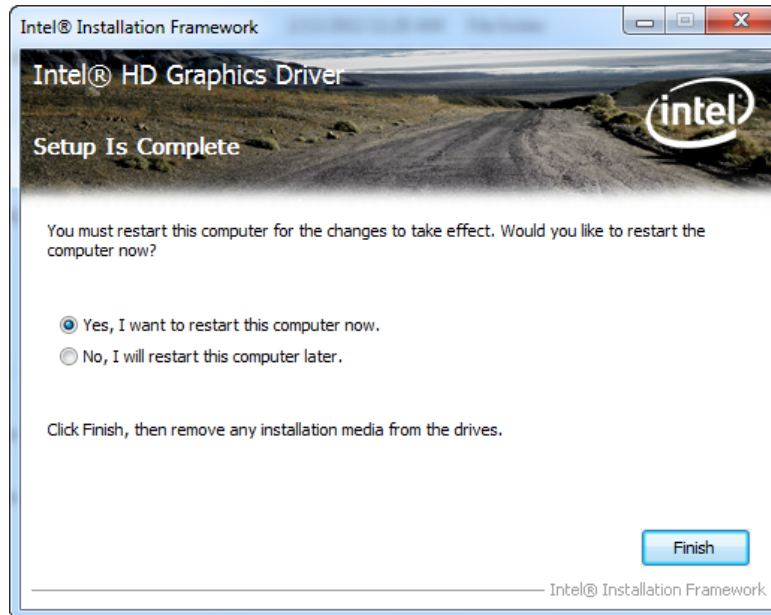

Figure 5-14: Graphics Driver Installation Finish Screen
Step 16: The Finish screen in Figure 5-14 appears.